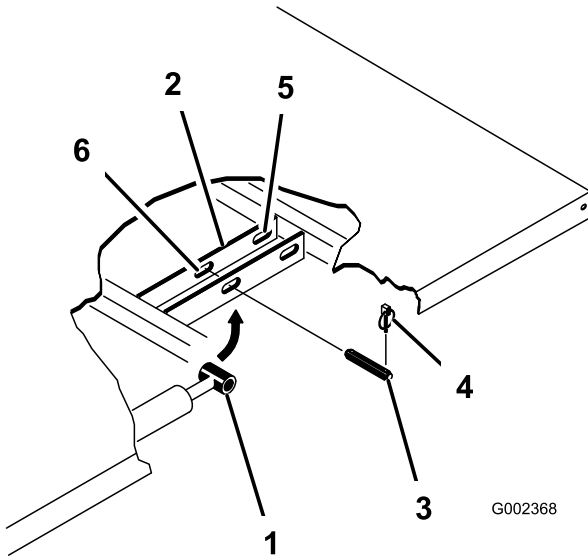

Figure 32
3. Remove the lynch pins from the outer ends of the cylinder rod clevis pins (Figure 32).
4. Remove the clevis pins securing the cylinder rod ends to the bed-mounting plates by pushing the pins towards the inside (Figure 32).